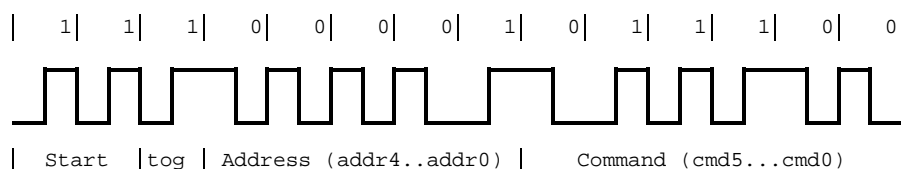

Figure 2.1: RC5 code
In Europe the RC5 code, developed by Philips, is a very common standard for data transmission by infrared (IR) remote controls for consumer products like TV, VCR, etc. The protocol is illustrated in figure 2.1. One data package consists of totally 14 bits. The first two bits are start-bits and always are '1'-bits. The next bit toggles each time a new key is pressed. This means, for example, when the volume-button is held some seconds, this bit will not toggle.